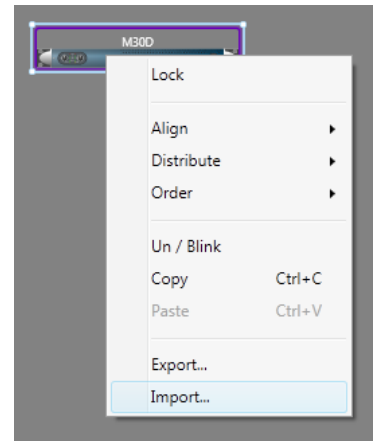

FIGURE 21: Left click to select (the blue rectangle appears) and right click for import.
3. If you already have a device preset (.pam) you can import it by right clicking on the device (see FIGURE 21).